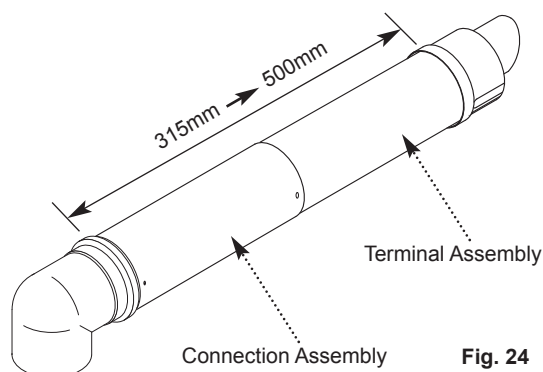

Fig. 24
2. The two sections can be adjusted to provide a length between 315mm and 500mm (Fig. 24) when measured from the flue elbow (there is 40mm engagement into the elbow).